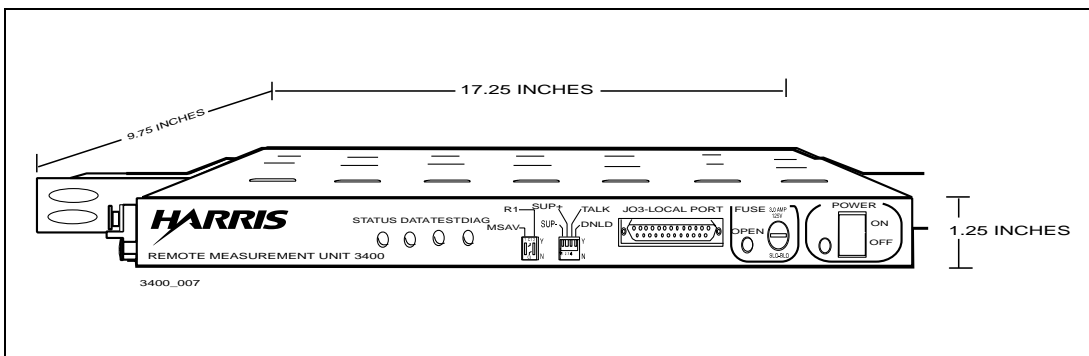

Figure 1-2. RMU 3400
- Remote Measurement Unit 3400 (RMU 3400) (see Figure 1-2).